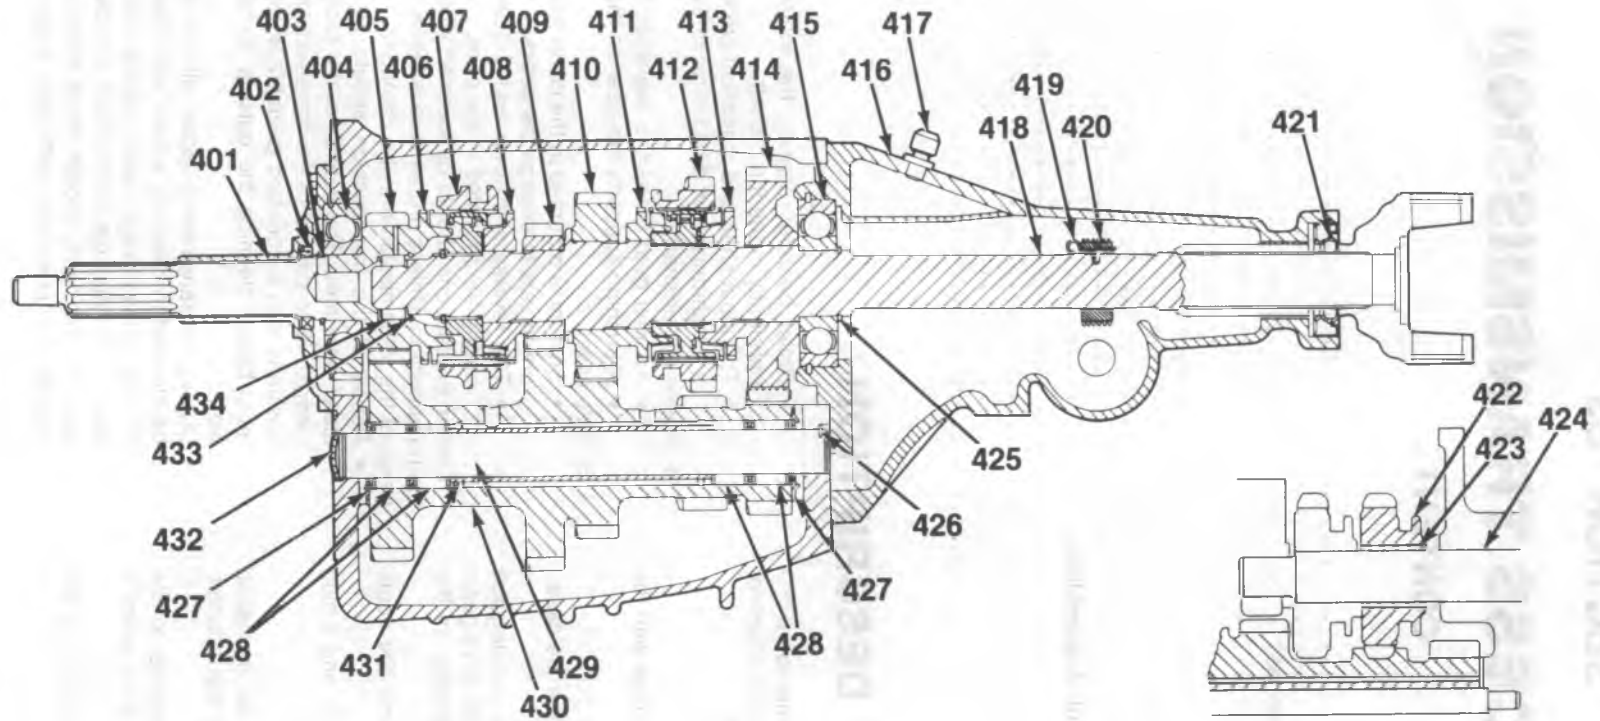
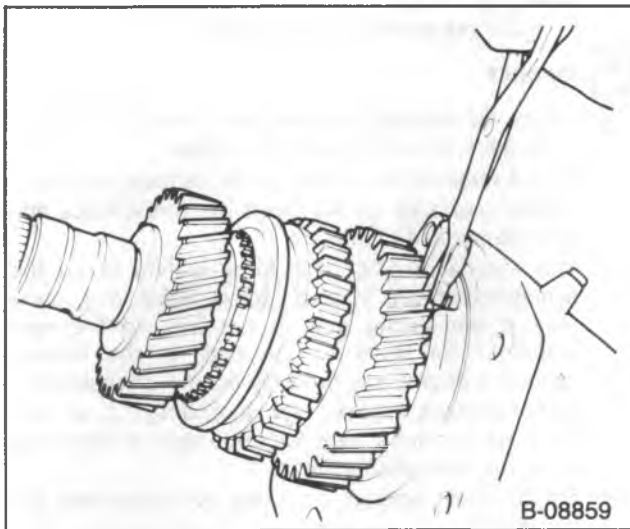
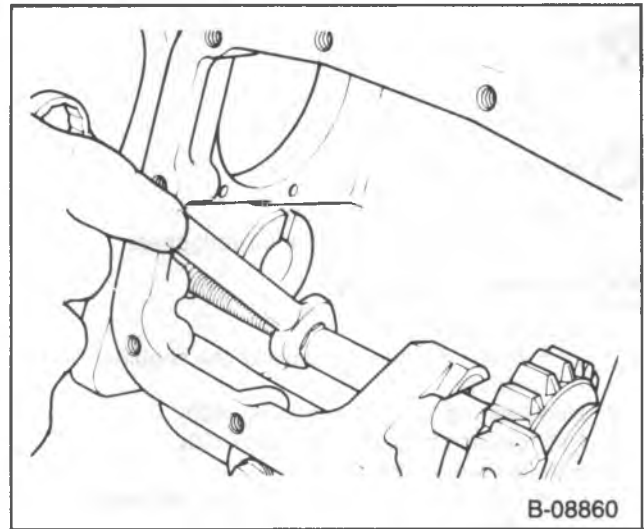

Figure 1—4 Speed 89 mm Transmission
Figure 4—Removing the Mainshaft
Figure 5—Removing the Reverse Idler Shaft
The New Process 89 mm 4 speed transmission (RPO MY6) is an overdrive transmission and is fully synchronized in all speeds except reverse (figure 1).
5. Countershaft (429), using J 29793.
6. Extension housing screw (439).
7. Bearing retainer (401) and the gasket.
8. Main drive gear (405).
9. Extension housing (416) and the mainshaft.
- Slide the 3rd and overdrive synchronizer sleeve (407) to the front (figure 1).
- Slide the reverse idler gear (422) to the center of the idler shaft.
10. Snap ring (454) and the mainshaft (418) from the extension housing (figure 4).
11. Countergear (430) and the thrust washers.
12. Reverse idler shaft (424).
- Turn the nut against the socket, driving the shaft out of the bore (figure 5).
13. Reverse shift shaft (443) and the seal.